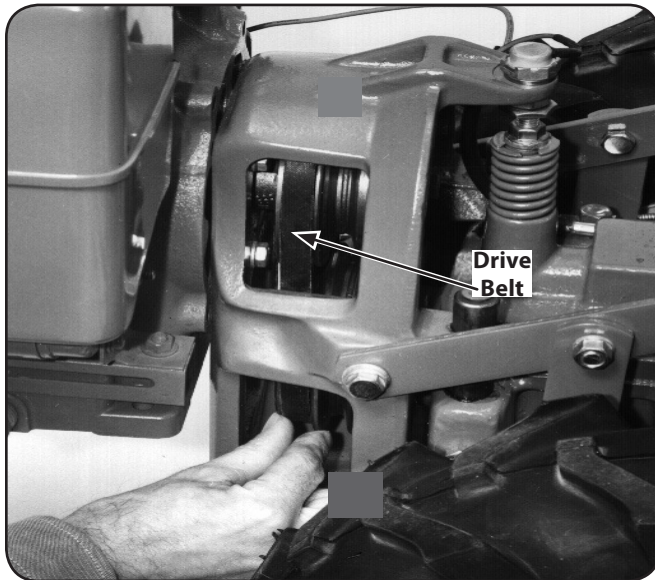

Figure 7-5
12. Move the top half of the belt into the HIGH Range groove, the groove closest to the engine, on the top pulley. See Figure 7-5.